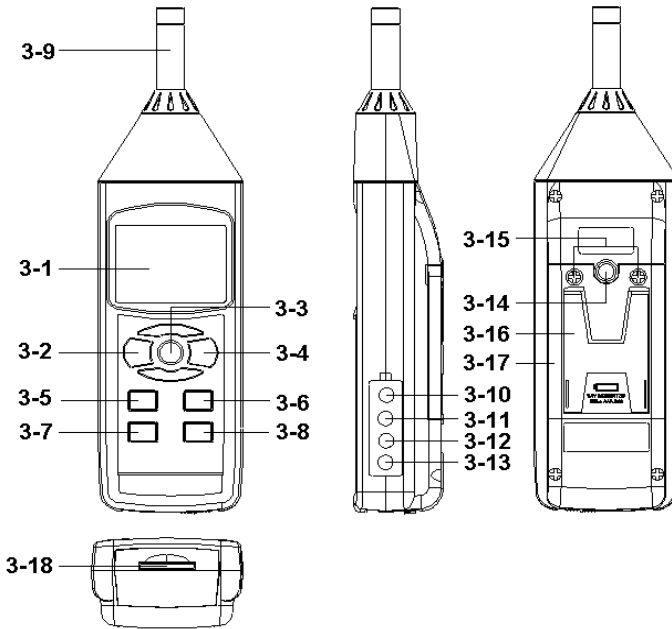

Fig. 1
- 1) Power on by pressing the " Power On/Off Button " (3-2, Fig. 1) , the meter's default function is " Auto range " , " A frequency weighting " & " Fast time weighting ". The LCD display will show the unit " A. Fast Auto " .
- 2) Select " A " or " C " frequency weighting by pressing the " A/C Button " (3-6, Fig. 1) .
- 3) Determine proper measuring range by pressing the " Range Button " (3-5, Fig. 1) .
Under the auto range, press the " Range Button " (3-5, Fig. 1) once step by step will enter to the manual range (range 1, range 2, range 3) and auto range in sequence. There are still 3 manual ranges for your choice :
4) According to various measuring sound source, select the Time Weighting (Fast or Slow) by pressing the " Time Weighting Button " (3-7, Fig. 1).
During the measurement, press the " Hold Button " (3-3, Fig. 1) once will hold the measured value & the LCD will display a " HOLD " symbol.
- 1) The data record function records the maximum and minimum readings. Press the " REC Button " (3-4, Fig. 1) once to start the Data Record function and there will be a " REC " symbol on the display.
- a) Press the " REC Button " (3-4, Fig. 1) once, the " REC MAX " symbol along with the maximum value will appear on the display.
If intend to delete the maximum value, just press the " Hold Button " (3-3, Fig. 1) once, the display will show the " REC " symbol only & execute the memory function continuously.
- b) Press the " REC Button " (3-4, Fig. 1) again, the " REC MIN " symbol along with the minimum value will appear on the display.
If intend to delete the minimum value, just press the " Hold Button " (3-3, Fig. 1) once, the display will show the " REC " symbol only & execute the memory function continuously.
After power ON, the " LCD Backlight " will light automatically. During the measurement, press the " Backlight Button " (3-2, Fig. 1) once will turn OFF the " LCD Backlight " .
Prepare a " SD memory card " (1 GB to 16 GB, optional), insert the SD card into the " SD card socket " (3-18, Fig. 1). The front panel of the SD card should face against the the down case.
Press the " REC Button (3-4, Fig. 1) once , the LCD will show the text " REC ", then press the " Logger Button " (3-8, Fig. 1), the " REC " will flashing, at the same time the measuring data along the time information will be saved into the memory circuit.
During execute the Datalogger function , if press the " Logger Button " (3-8, Fig. 1) once will pause the Datalogger function (stop to save the measuring data into the memory circuit temporally). In the same time the text of " REC " will stop flashing.
If press the " Logger Button " (3-8, Fig. 1) once again will execute the Datalogger again, the text of " REC " will flashing .
During pause the Datalogger, press the " REC Button " (3-4, Fig. 1) continuously at least two seconds, the " REC " indicator will be disappeared and finish the Datalogger.
Press the " REC Button (3-4, Fig. 1) once , the LCD will show the text " REC ", then press the " Logger Button " (3-8, Fig. 1) once, the " REC " will flashing once , at the same time the measuring data along the time information and the Position no. will be saved into the memory circuit.
- * During execute the Manual Datalogger, press the " SET Button " (3-7, Fig. 1) once, then use the " ▲ Button " (3-5, Fig. 1) or " ▼ Button " (3-6, Fig. 1) to set the measuring position (1 to 99, for example room 1 to room 99) to identify the measurement location. After finish the adjustment location no., press the " Enter Button " to entry.*
Press the " REC Button " (3-4, Fig. 1) continuously at least two seconds, the " REC " indication will be disappeared and finish the Datalogger.
During the measurement if press " Time check Button " (3-5, Fig. 1) > 2 seconds, the lower LCD display will present the time information of Year/Month, Date/Hour, Minute/Second.
During the measurement , If press " Sampling Check Button " (3-6, Fig. 1) > 2 seconds, the lower LCD display will present the Sampling time information in second unit.